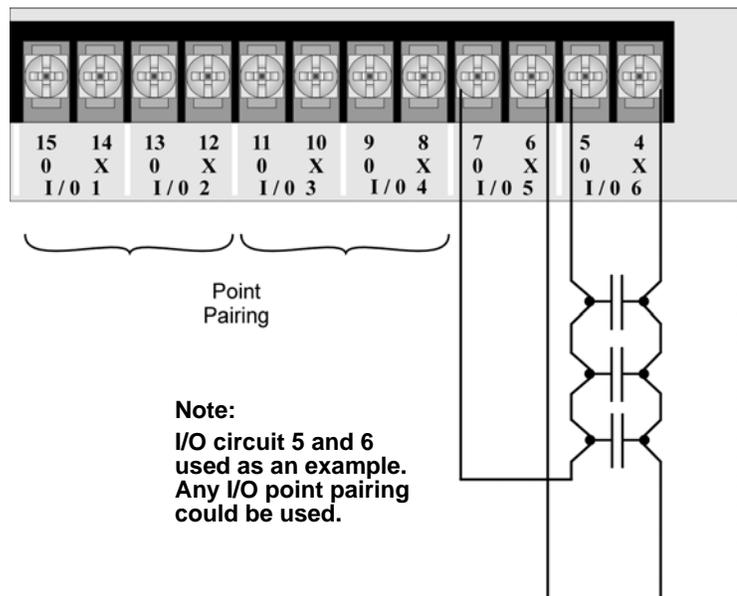

Figure 3.11 Class A initiating Switches
1. Wire the Class A switch as shown in Figure 3.11.
NOTE: In programming any point that uses multiple I/O circuits are always referred to as the lowest I/O circuit number used. For example, Figure 3.11 uses both I/O circuit 5 and 6, so in programming it would be referred to as point 5